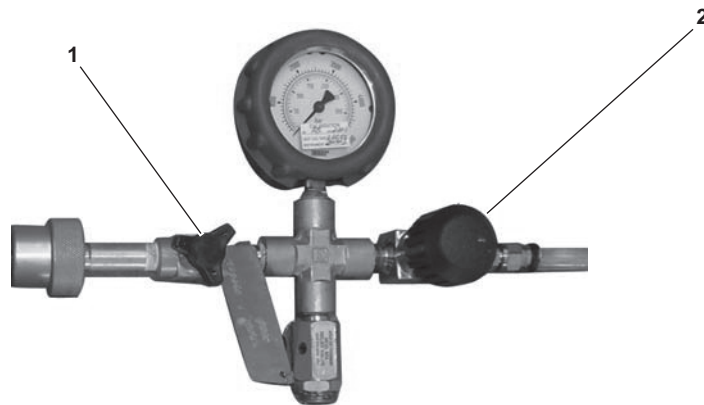

Figure 2-10. Fill Hose Bleed Valve and Fill Hose Shutoff Valve
- l. Close the fill hose bleed valve (figure 2-10, item 1) and the fill hose shutoff valve (figure 2-10, item 2) on both fill hose assemblies by turning them CW.